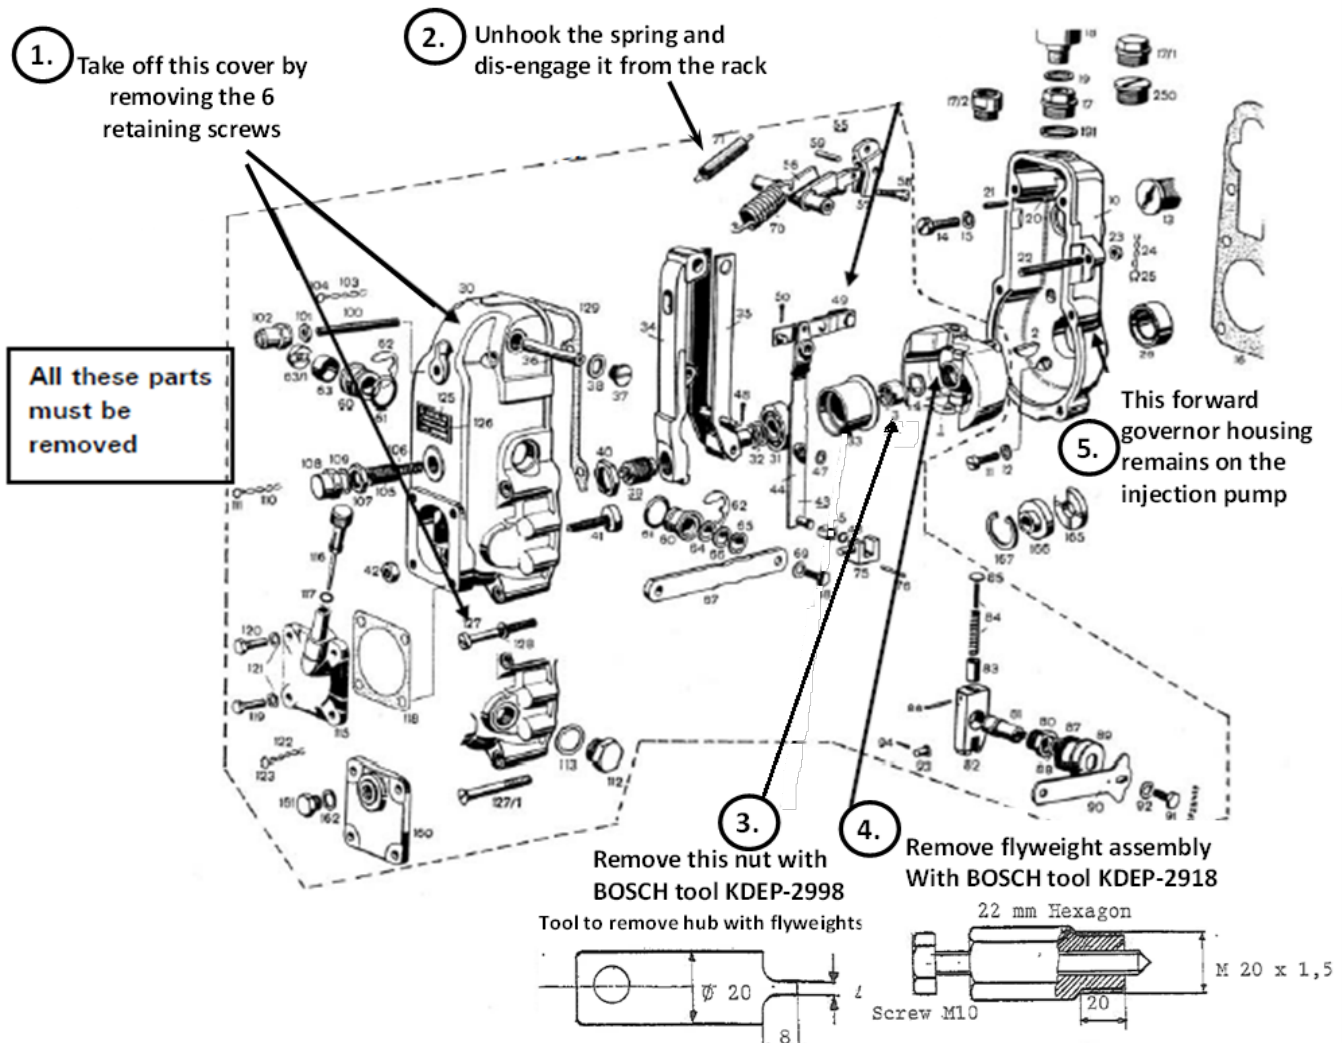

FIGURE 1-2 RACK LINK INSTALLED
2. Install the rack extension (PN LK175) onto the fuel rack. Insure the link is horizontal and in line with fuel rack. Torque the retaining screw to 5.2 - 5.6 Nm (46 - 50 inch-pounds) (Figure 1-2).